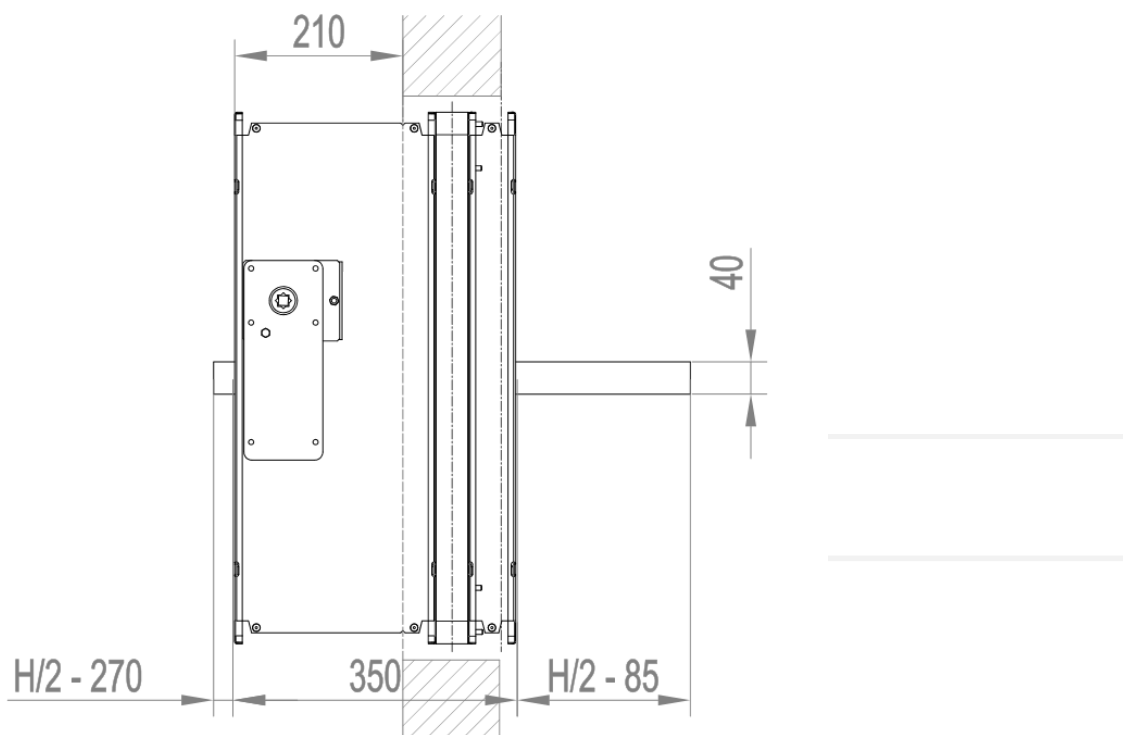

Figure 11. Dimensions of the building partition depending on the high of a damper
Arrangement 1 – vertical battery consisting of two fire dampers KWP (Figure 11)
- Fix the gasket on insulating spacer of one of adjoining fire dampers (position (1) in the Figure 11).